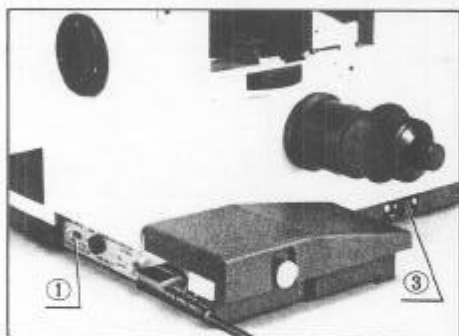

Fig. 18
- 1) Ascertain that the line voltage selector switch ① located at the back of the microscope stand is set to conform with the local mains voltage. (Fig. 18) If not, adjust correctly by means of a small screw-driver.
- 2) Make sure that the sliding voltage control lever ② is set at the closest position to the operator (low voltage), then turn on the power switch ③. (Figs. 18 & 19)